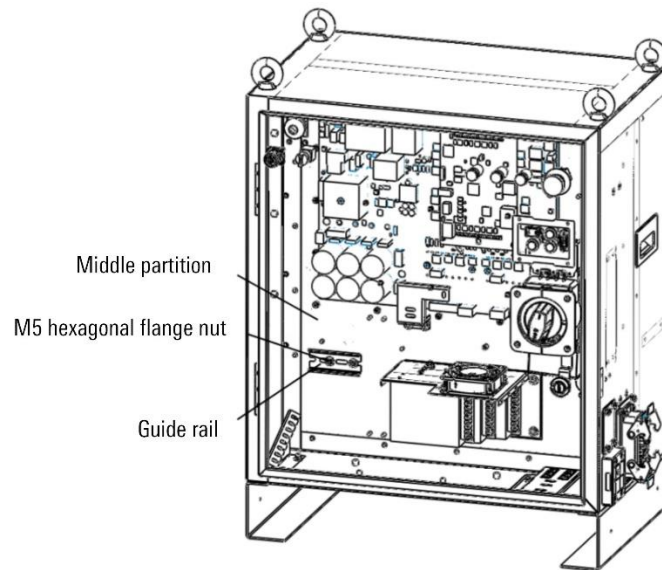

Figure 15-6 Mounting guide rail
Step1. Use 2 M5 hexagonal flange nuts to install the guide rail to the lower left side of the middle partition of the control cabinet, as shown in Figure 15-6.